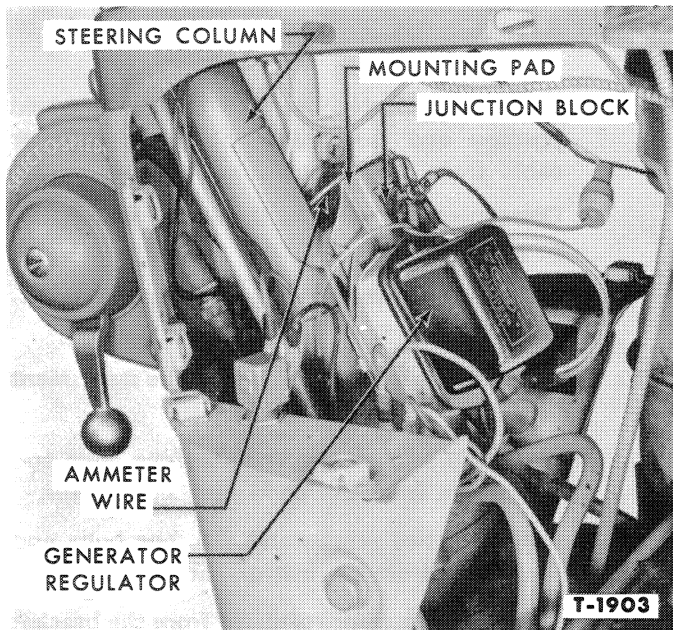

Figure 16—Steering Column with Hood Side Panel Removed
13. Remove the generator regulator from the bracket on the steering column, Figure 16.